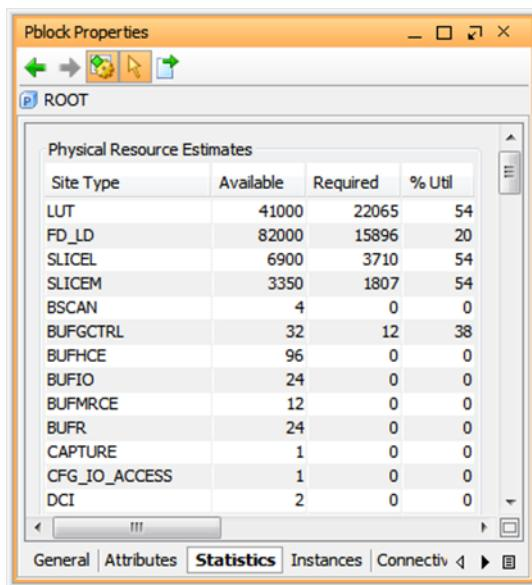

Figure 12: ROOT Module Statistics
3. View the **Physical Resource Estimates** that display in the Pblock Properties view, as shown in FIGURE 12.